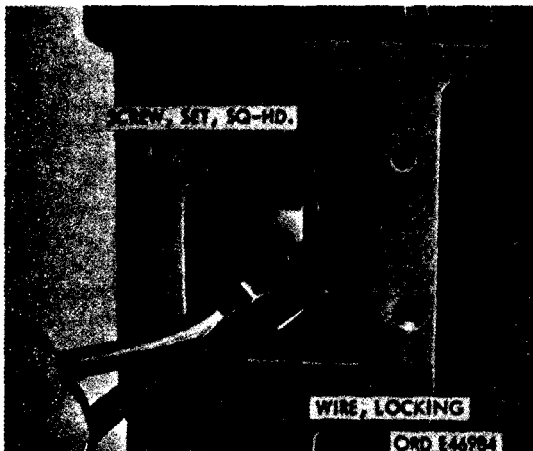

Figure 225. Shifter shaft locking wire removal
- (e) Sever locking wire and remove square head setscrew (fig. 225) which secures shifter fork to shifter shaft. This is necessary to provide clearance for input shaft removal.